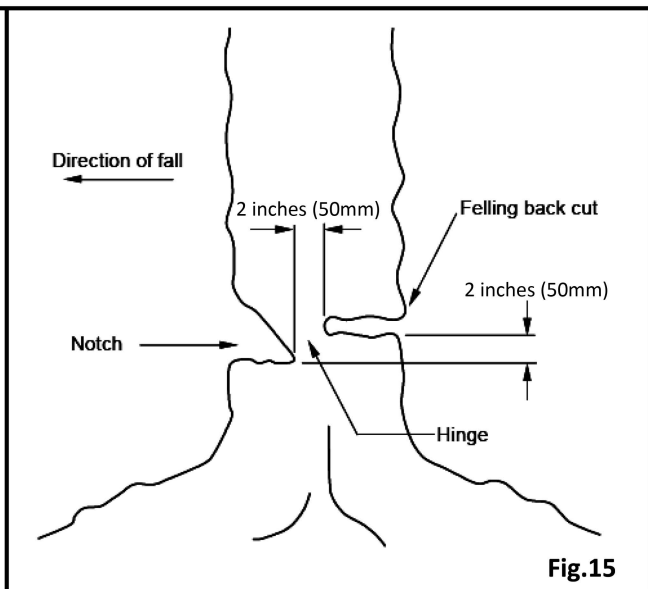

Fig.15
- Notched Undercut. Make the notch 1/3 the diameter of the tree, perpendicular to the direction of falls as illustrated in figure 15. Make the lower horizontal notching cut first. This will help to avoid pinching either the saw chain or the guide bar when the second notch is being made.
- Felling Back Cut. Make the felling back cut at least 2 inches (50mm) higher than the horizontal notching cut as illustrated in figure 15. Keep the felling back cut parallel to the horizontal notching cut. Make the felling back cut so enough wood is left to act as a hinge. The hinge wood keeps the tree from twisting and falling in the wrong direction. Do not